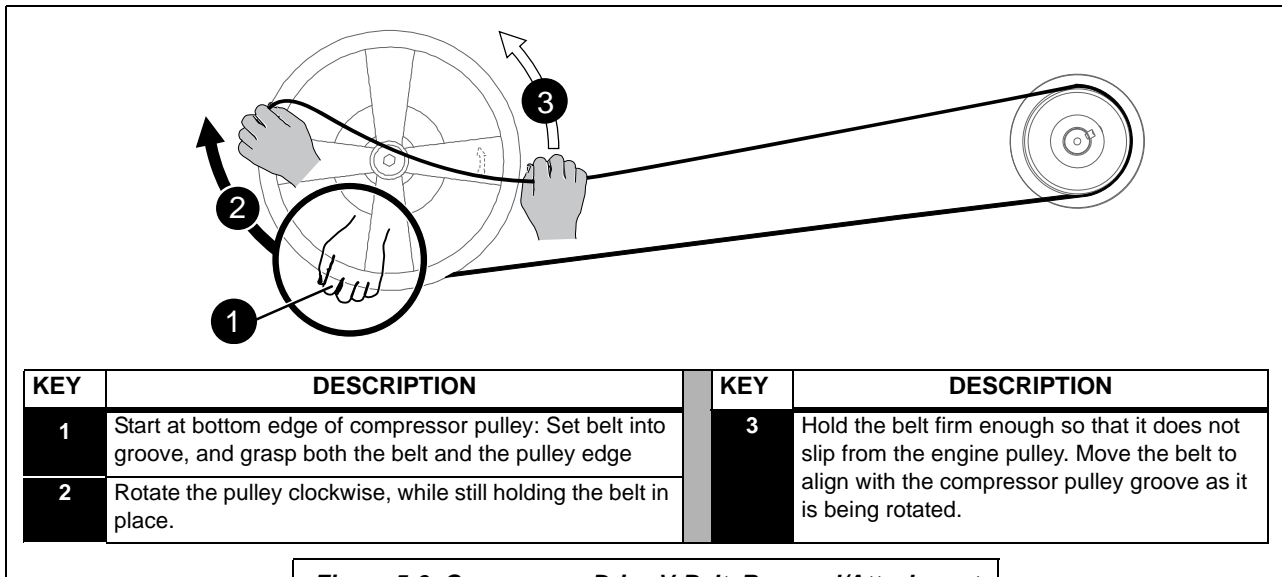

Figure 5-6: Compressor Drive V-Belt Removal/Attachment
Refer to **Figure 5-6** and the following procedure to mount the compressor link drive belt onto the compressor and engine pulleys.
3. Start at the bottom edge of the pulley as per **Figure 5-6, Step #1**. Continue to set the belt into the proper groove on the compressor pulley and engine pulley.
4. After the belt is seated into the compressor pulley groove, hold the belt and the pulley with the left hand (**Figure 5-6, Step #2**), while rotating the pulley in the direction shown. At the same time, feed the belt upward with the right hand as the pulley is turned (**Figure 5-6, Step #3**).